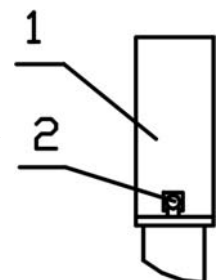

Fig.10.10
10.7.1.2 Carefully pack the cables in KSST-1 (BM-00 and other), close cover 1 (Fig. 10.10), fix it using screws 2 and seal (for KSST-1).